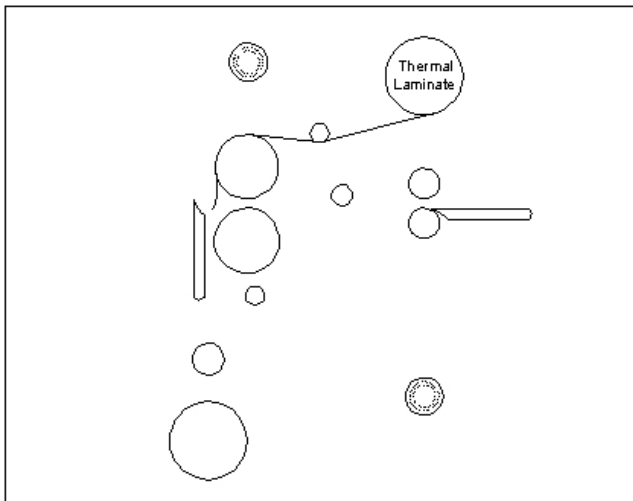

Fig 22
1. Turn the Power **ON/OFF** to on (I).
5. Pull the top roll of film down under the upper idler bar and allow to drape over the top heat roller (Figure 22).